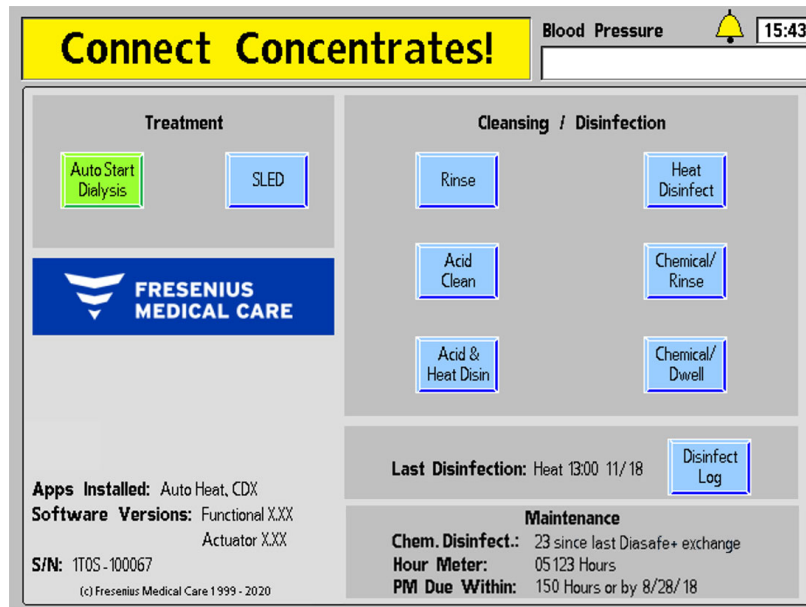

Figure 24 – The Auto Start Program Waiting for Concentrate Connection
- ✓ The red acid concentrate connector is inserted into a central acid supply or a jug containing sufficient acid concentrate for an entire treatment; if the connector is still in its port, the Auto Start Dialysis button will be green and the Status Box message “Connect Concentrates” will be displayed as in Figure 24 above. Once the connector is removed from its port, the machine will wait up to 10 minutes for dialysate conductivity and temperature to stabilize. If they do not, automatic testing will be cancelled and the self tests must be run manually.